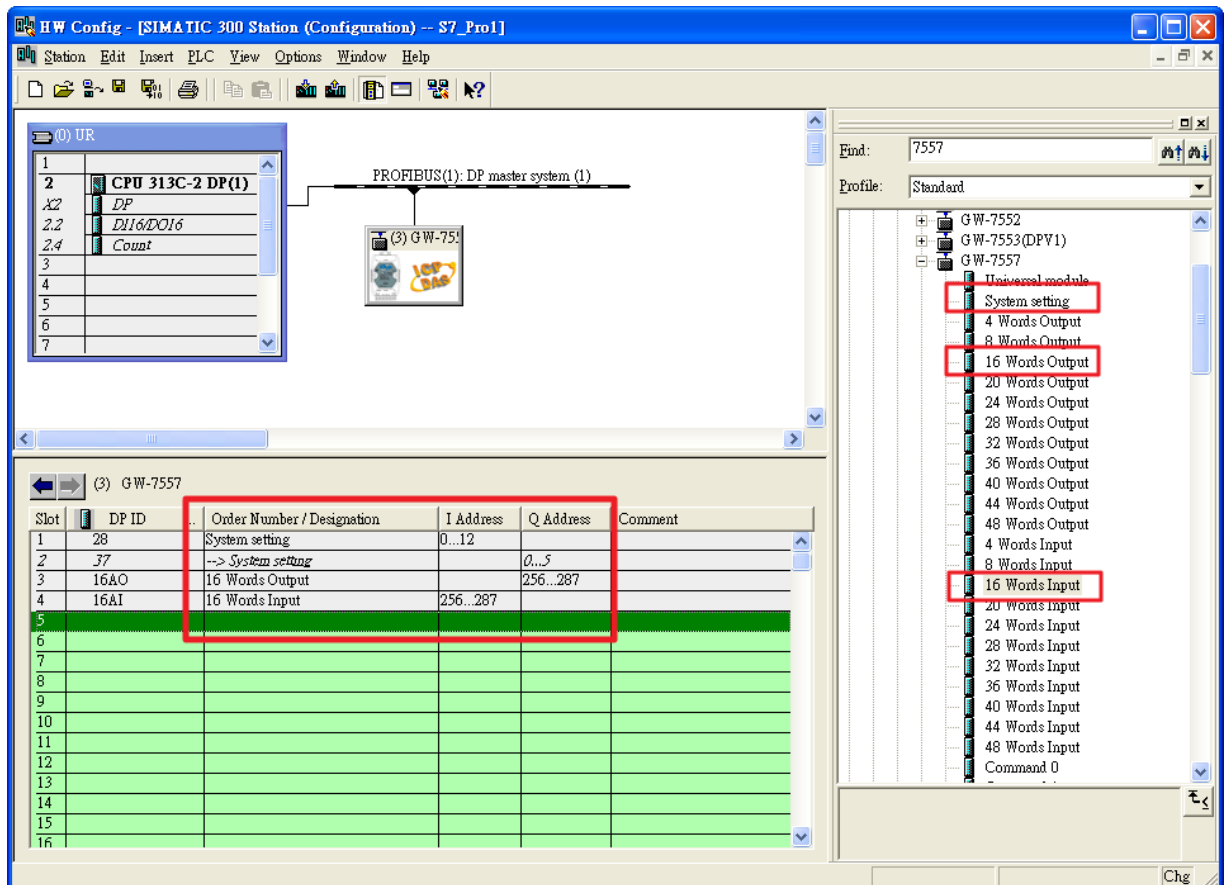

Figure 25 Select modules
Step 4: Set the GW-7557 modules, as shown in Figure 25